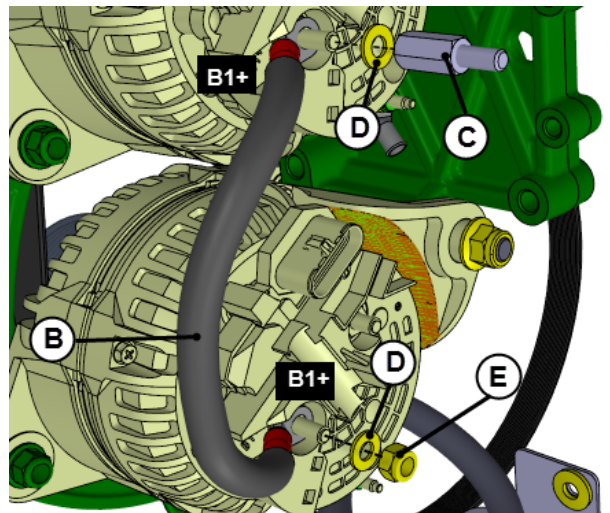

FIGURE 9
7. Reinstall appropriate jumper cable **B** (i.e. rev.C) with appropriate stud adapter. Refer to FIGURE 9.